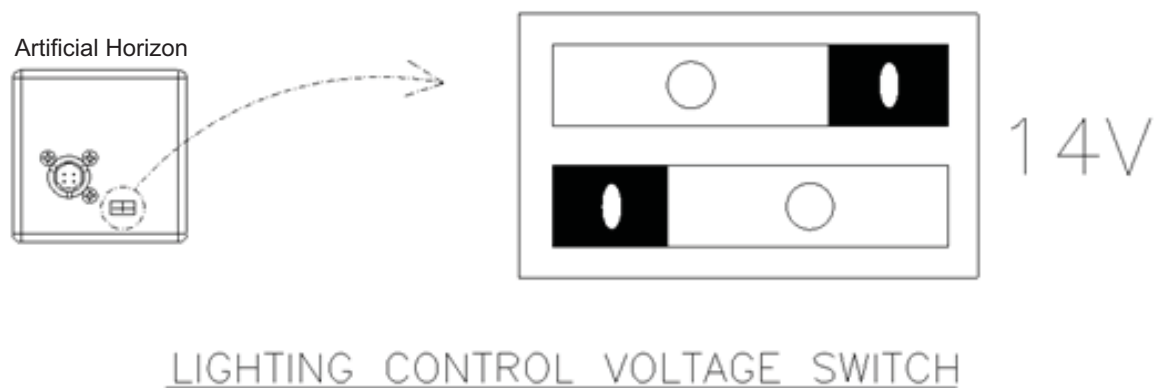

Figure 10
- 10.13 Prior to installing the Artificial Horizon, set the voltage control lighting switch to 14V. Refer to Figure 10.